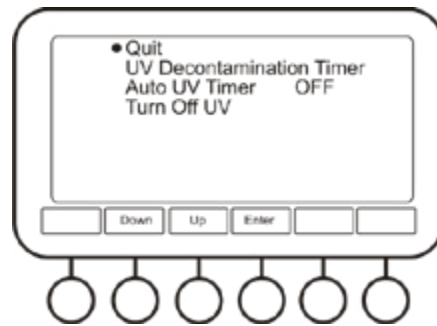

Fig. 3. Timer menu
4.9.1. **Timer** (fig. 3). In this submenu user can set UV decontamination timer and Auto UV timer.